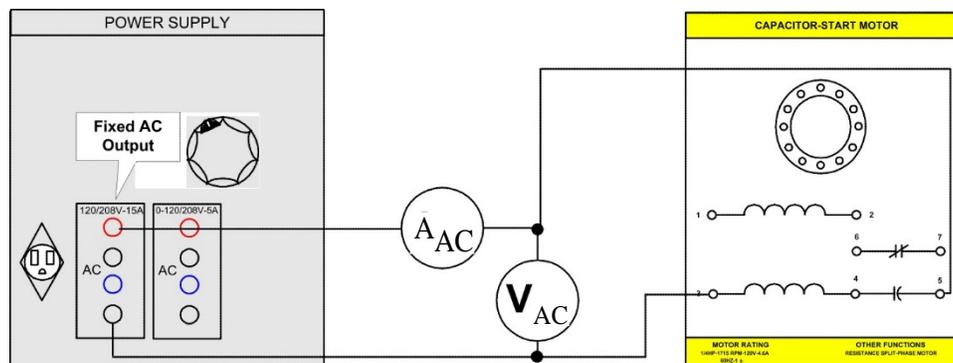

FIGURE 8.13
Step 1: Connect the circuit shown in Figure 8.13.